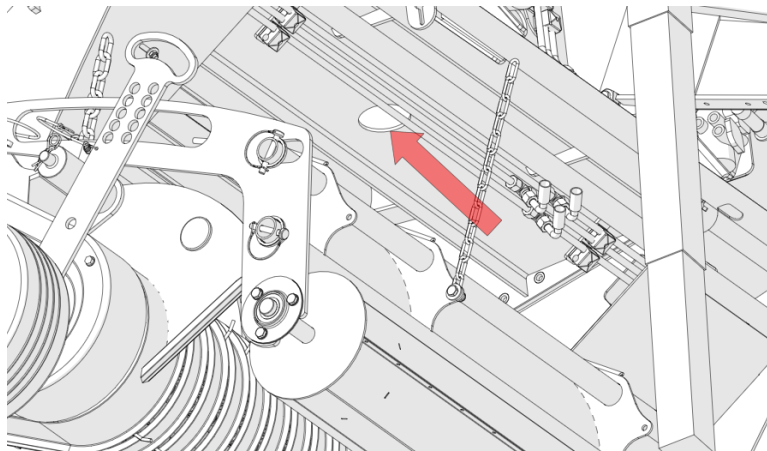

Figure 69. Drain cap
- Unscrew and remove the plug located on the bottom of the gearbox (Figure 69). It is accessible through the hole in the bottom part of the front bar, above the pick-up;